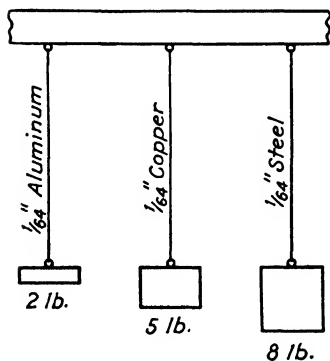

Fig. 207.
**A. Demonstration 1.** Take three wires—one aluminum, one copper, and one steel—all  $\frac{1}{64}$  in. in diameter and suspend them as shown in Fig. 207.